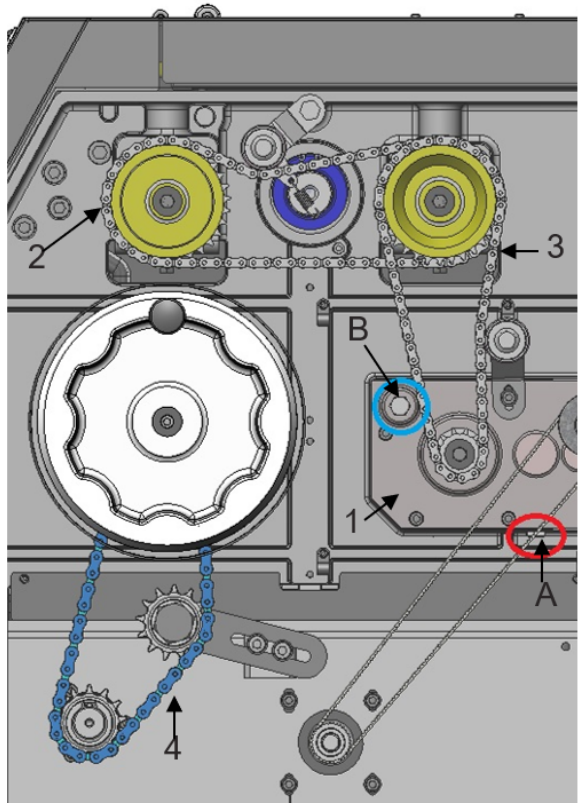

FIGURE 25: LUBRICATION
- The Gear Box oil must be changed after 2500 hours of work. (Fig. 25)
- All chains must be lubricated regularly. (Fig. 25 & 26)